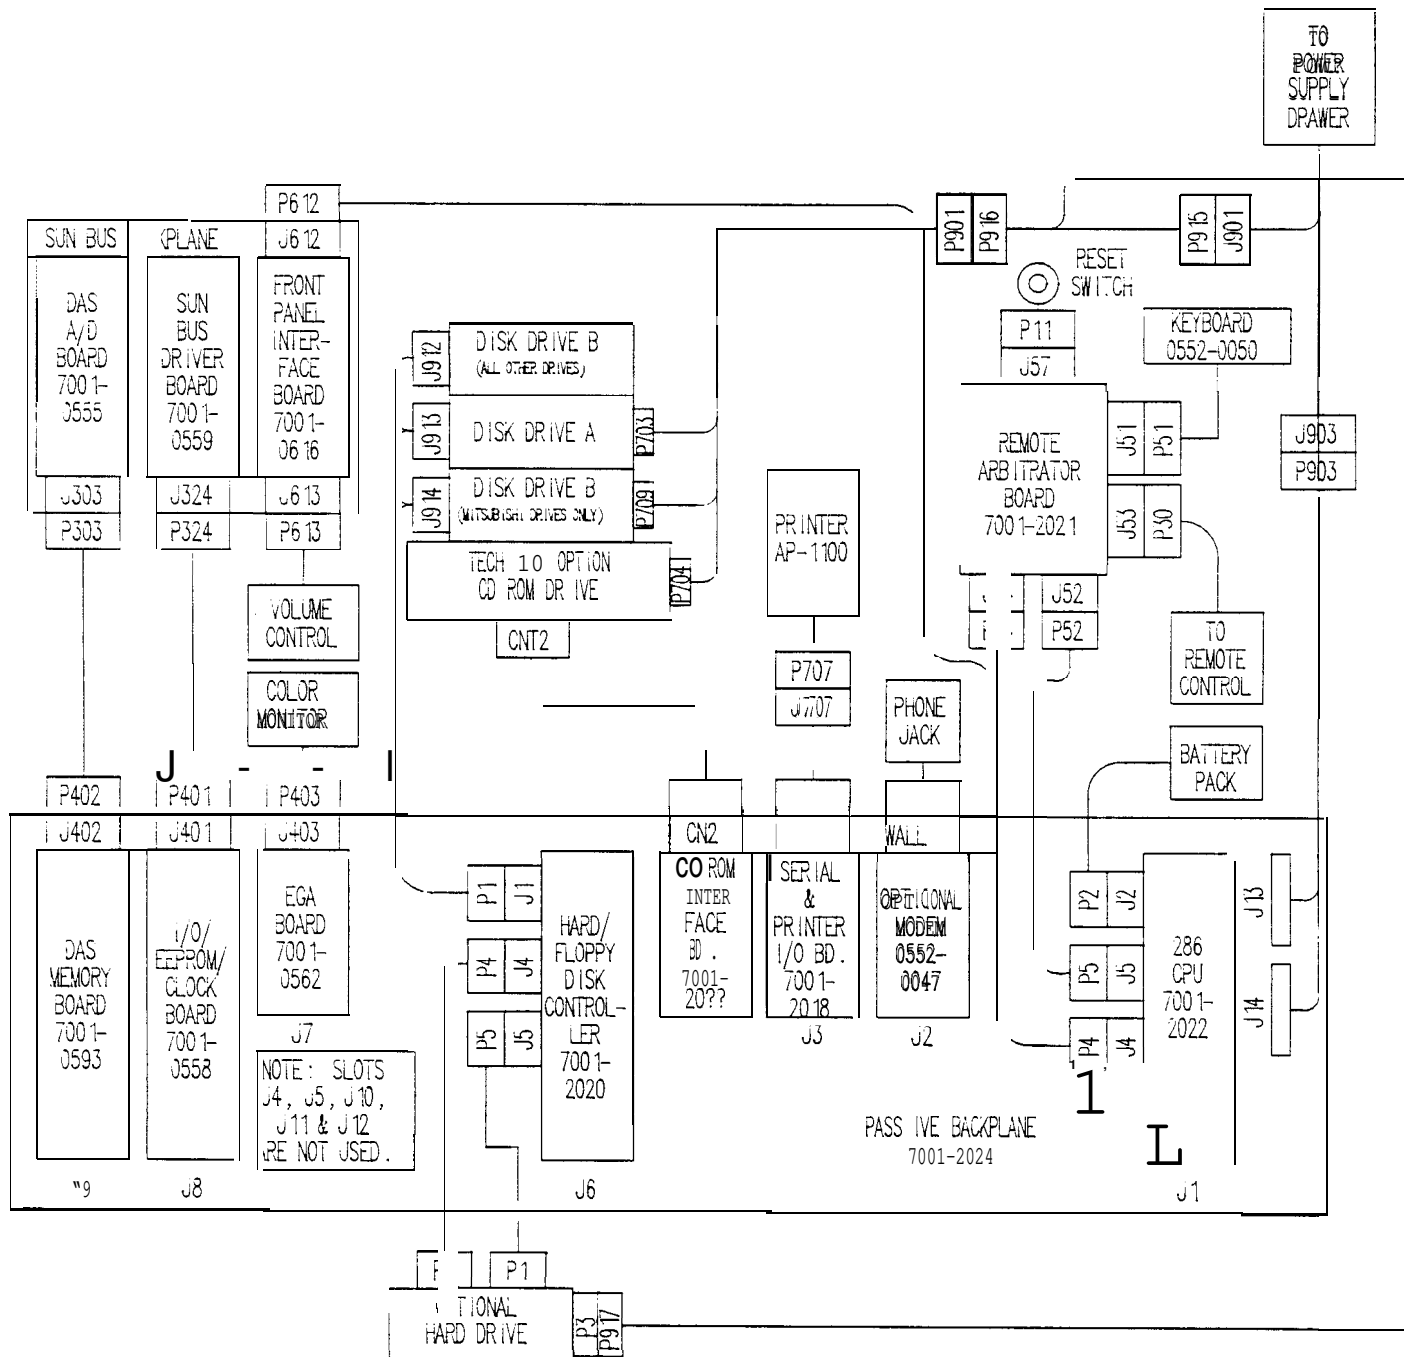

Figure 8. MCA286 Interconnection Diagram
69. Re-check all connections, to make sure that EVERYTHING has been connected properly per Figure 8 MCA 286 Interconnection Diagram.